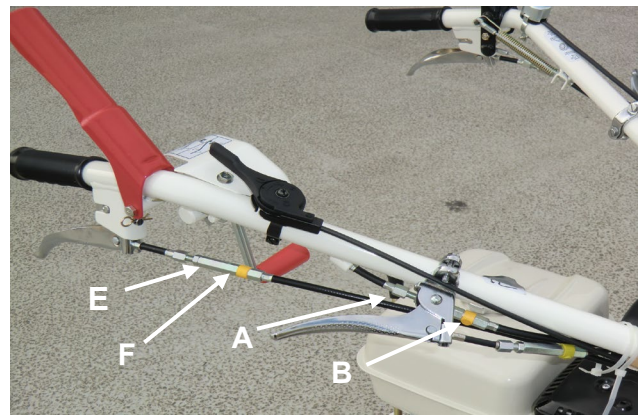

Figure 17
- If the blade does not stop when the blade lever is released, adjust the tension wire as follow : unscrew the locking screw (A, Figure 17) and unscrew the nut (B, Figure 17). Try the machine again. Perform the adjustment again if needed. When the adjustment is performed screw the locking screw (A, Figure 17) on the nut (B, Figure 17).
- If the blade does not move when transmission lever is pressed, adjust the tension wire as follow : unscrew the locking screw (A, Figure 17) and after screw the nut (B, Figure 17). Try the machine again. Perform the adjustment again if needed. When the adjustment is performed screw the locking screw (A, Figure 17) on the nut (B, Figure 17).